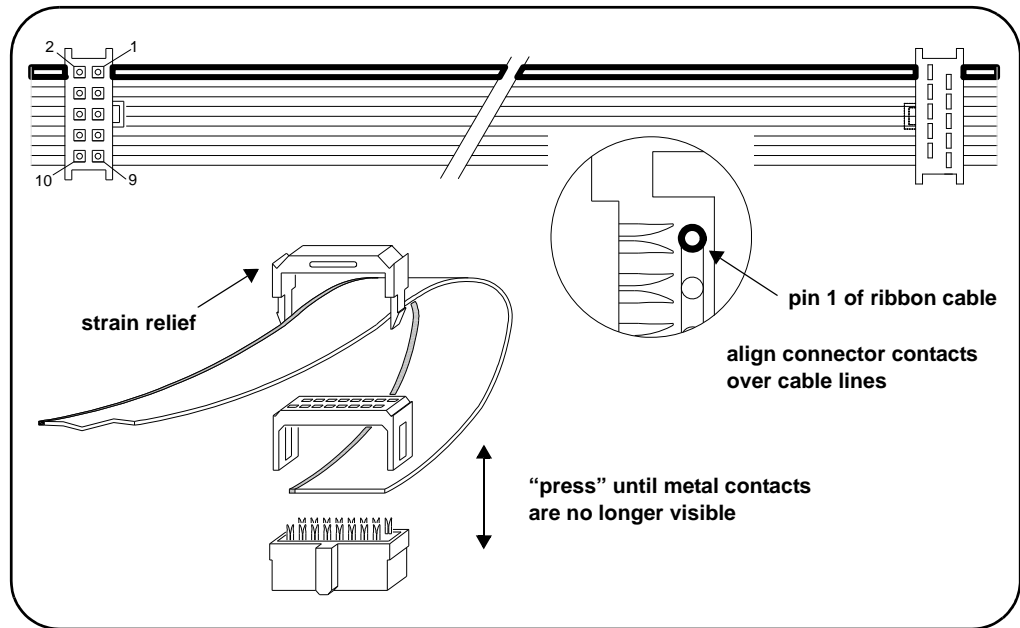

Figure 1-4. Y1158A 10-pin to 10-pin Connector Orientation and Cable Routing.
2. Position the ribbon cable connectors as shown in Figure 1-4. Route the cable **through** the connectors, noting the location of pin 1 on the cable. By convention, pin 1 is indicated in red (the dark line in the drawing).
6. Fasten the strain relief clamps over the cable and into the ribbon cable connectors as shown in Figure 1-4. Remove any excess cable after the clamps are in place.